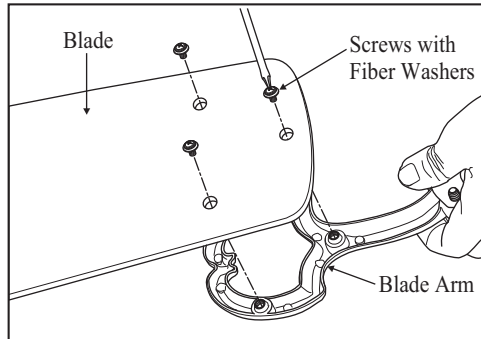

Figure 17
1. Attach blades to blade arms using three screws with fiber washers (Fig. 17). Start a screw into the blade arm, do not tighten. Repeat for the 2 remaining screws and washers.